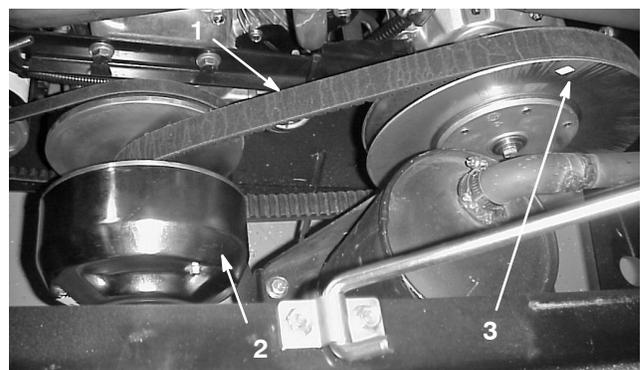

Figure 38
1. Rotate and route the belt over the secondary clutch (Fig. 38).
2. Remove the belt from the primary clutch (Fig. 38).